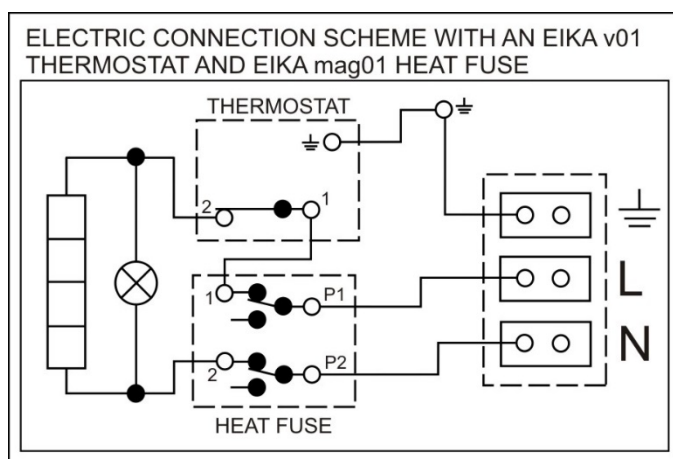

Figure 8
- The electric wiring scheme is attached to the water heater on the side of the electric installation guard (Figure 8).